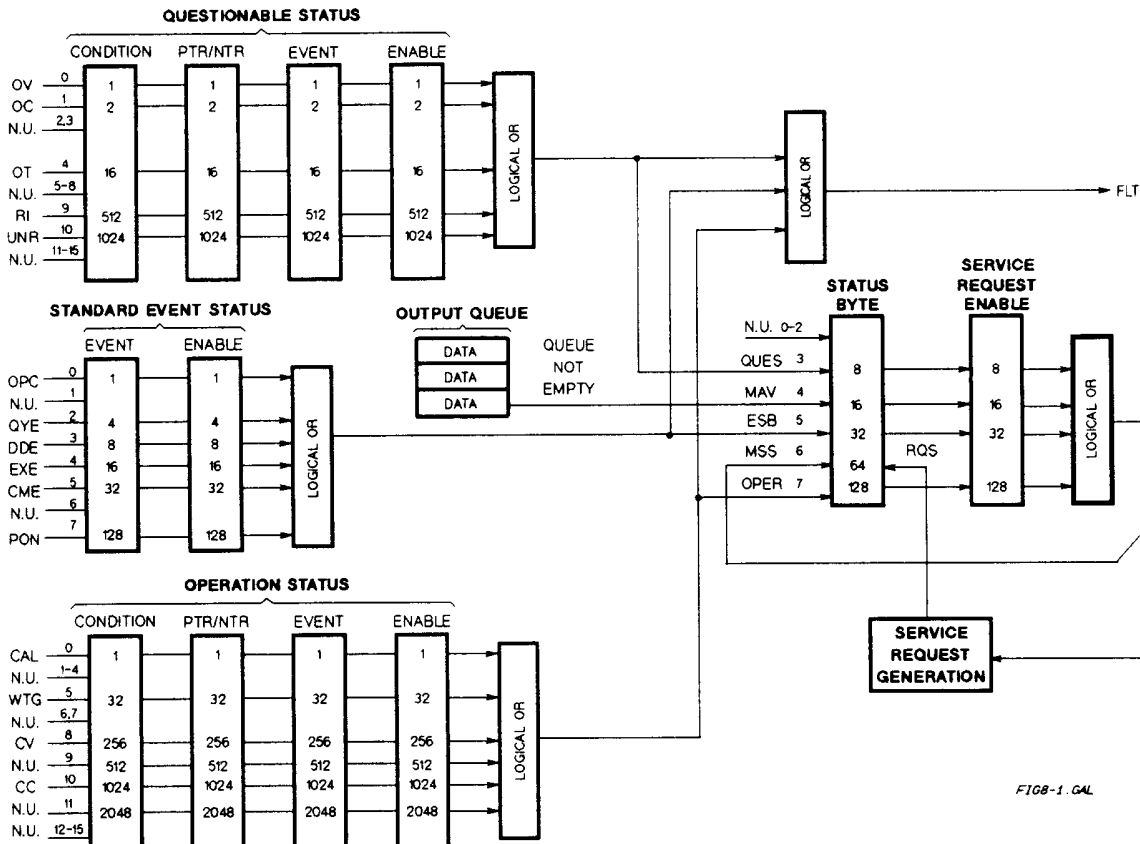

Figure 4-1. Power Supply Status Model
Figure 4-1 shows the status register structure of the power supply. The Standard Event, Status Byte, and Service Request Enable registers and the Output Queue perform standard GPIB functions as defined in the *IEEE 488.2 Standard Digital Interface* for Programmable Instrumentation. The Operation Status and Questionable Status registers implement status functions specific to the power supply. Table 4-2 and Figure 4-1 show the bit configuration of each status register.
The Questionable Status registers record signals that indicate abnormal operation of the power supply. As shown in Figure 4-1, the group consists of the same type of registers as the Status Operation group. The outputs of the Questionable Status group are logically-ORed into the QUES(tionable) summary bit (3) of the Status Byte register.
This example assumes you want a service request generated whenever the power supply switches to the CC (constant current) mode. From Figure 4-1, note that the required path is for a condition at bit 10 (CC) of the Operation Status register to set bit 6 (RQS) of the Status Byte register. The required register programming is shown in Table 4-5.
Whenever a fault is detected in the power supply, it is capable of generating a FLT signal at the digital port (see "Appendix D - Digital Port Functions" in the power supply Operating Guide). The source for the DFI signal can be any Questionable, Operation, or Standard Event status event (see Figure 4-1).